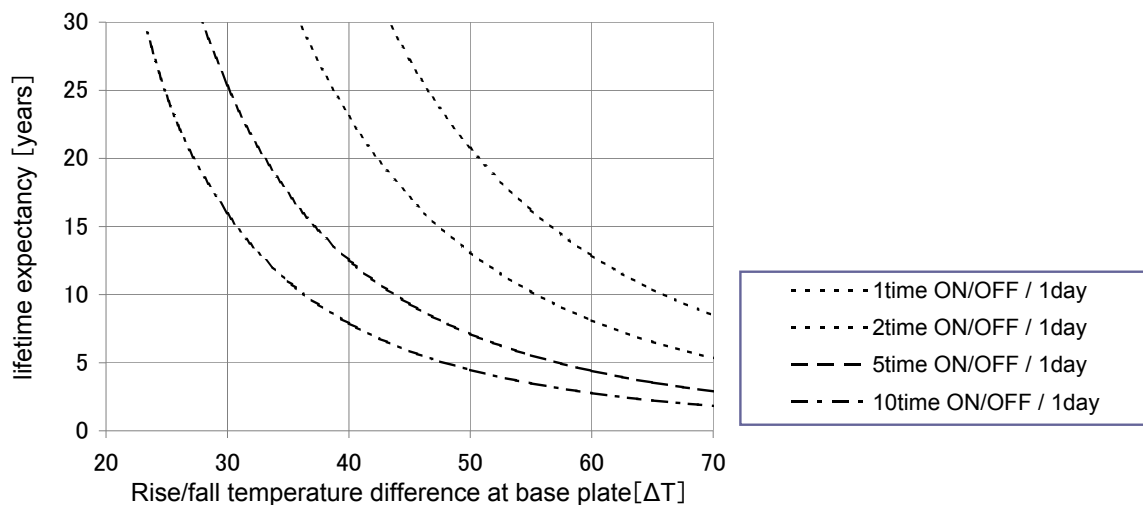

Fig. 6.4 Lifetime expectancy against rise/fall temperature difference
Times of ON/OFF is one of generator to make rise/fall temperature difference. Fig. 6.4 is for your design reference which indicating lifetime expectancy against the difference and times of ON/OFF standardized on base plate temperature.
- Fig.6.4 is calculated based on the following conditions.